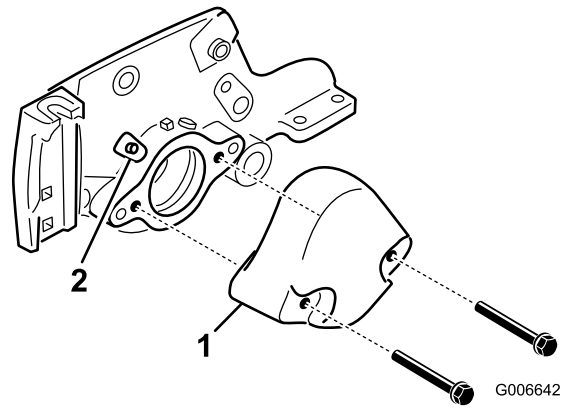

Figure 3
3. Remove the (2) bolts securing the counter weight to the left end of the cutting unit. Remove the counter weight (Figure 3).
4. Remove the straight grease fitting from the bearing housing and replace with the 45 degree fitting (Figure 3). Position the fitting so it points to the top of the cutting unit.